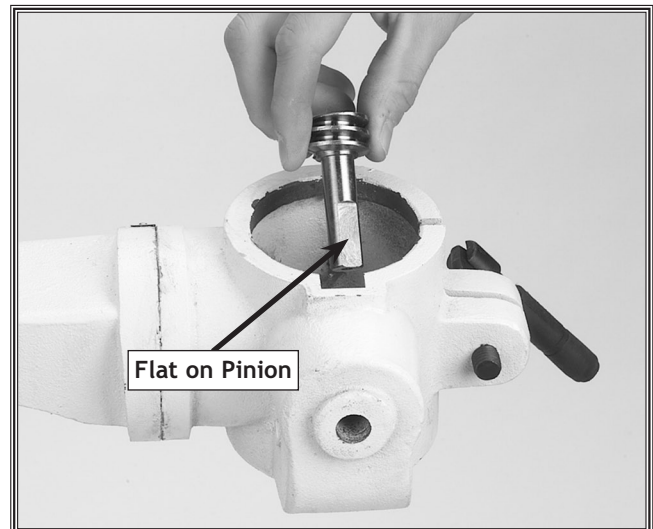

Figure 11. Pinion installation positioning.
2. If the pinion is not already installed, insert its shaft-end into the hole on the side of the table support bracket, as shown in **Figure 11**.